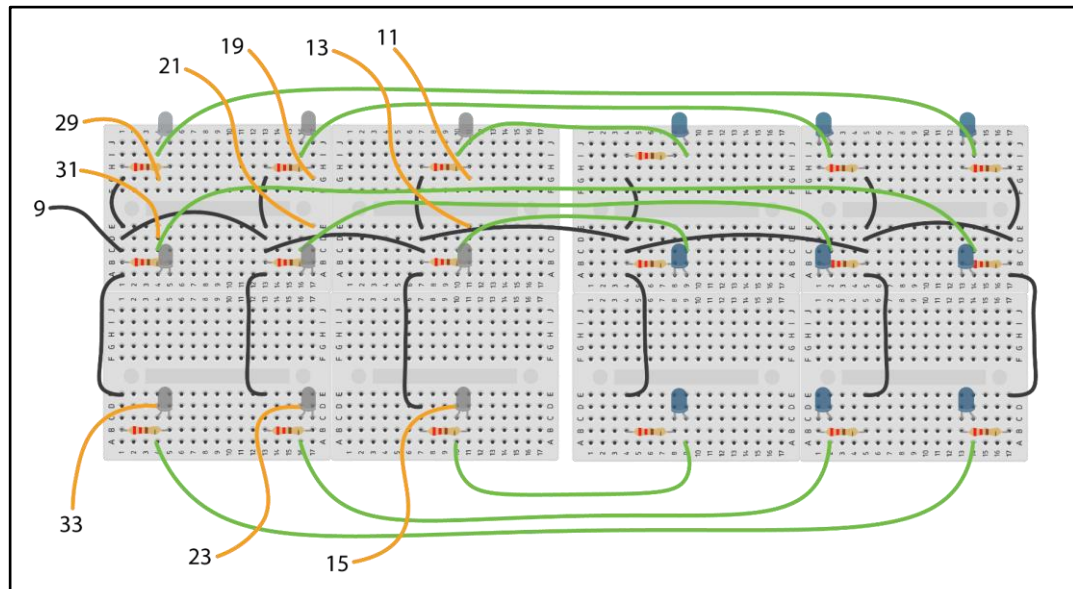

Figure 22. Connecting white and IR LEDs to the GPIO.
- c. Connect each of the 9 white+IR LED pairs to the GPIO (via the 9 orange wires (+) and black wires (-, GND; black hook-up wires) in **Fig. 22**. For the orange wires (orange here is for visual display—in reality, here we used the red hook-up wire), cut the electrical wire to an appropriate length (~5cm) and daisy chain it to a female-to-female dupont wire, which will then connect to the GPIO board (according to the logic in **Fig. 22**). **Hook-up electric wire (as opposed to Dupon wires) is used here due to the limited space between the LEDs and the 3D printed pieces that these LEDs arrays will fit between.*